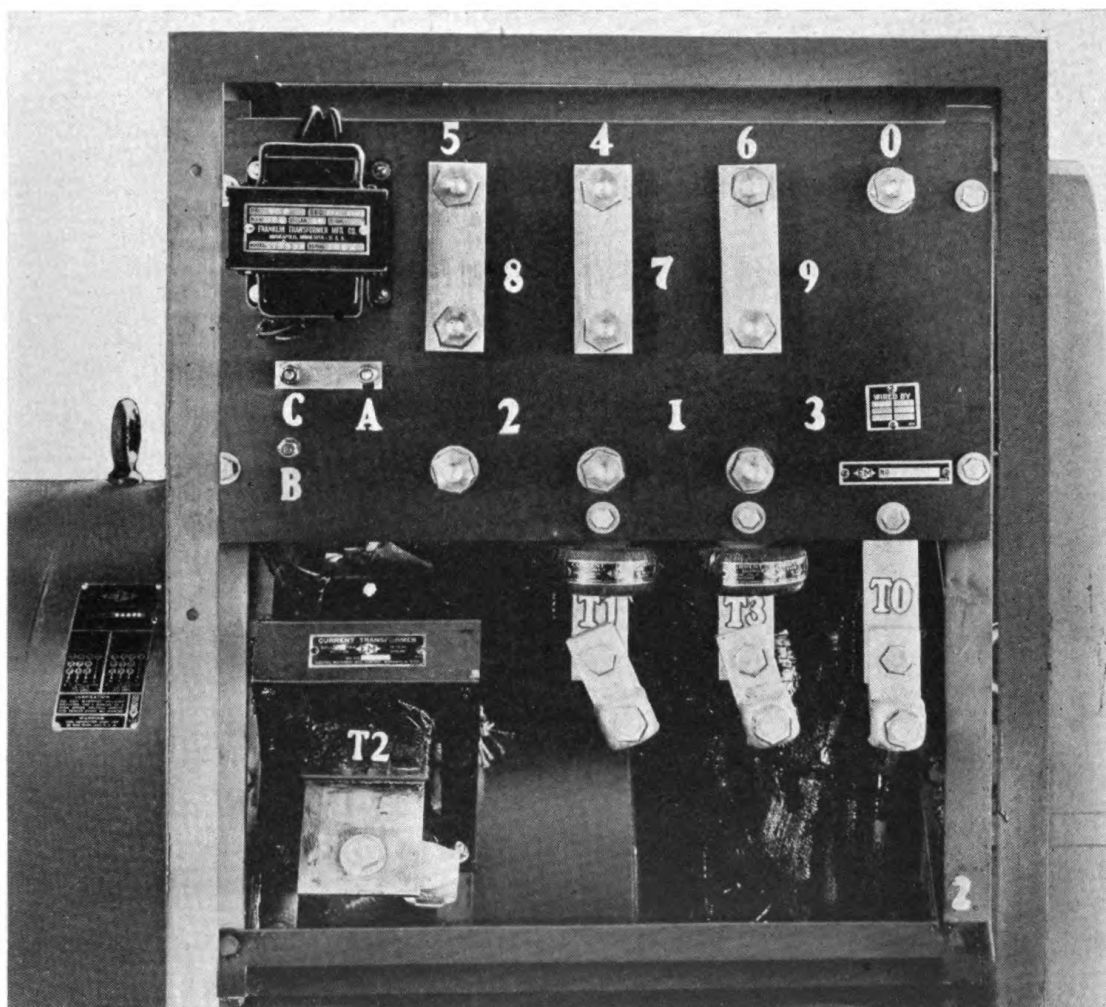

FIG. 4—Terminal Box Connections for 220/127 Volt, 50 Cycle, 1000 Rpm. Operation
- Figure 4 Terminal box connections for 220/127 volt, 50 cycle, 1000 rpm. operation.